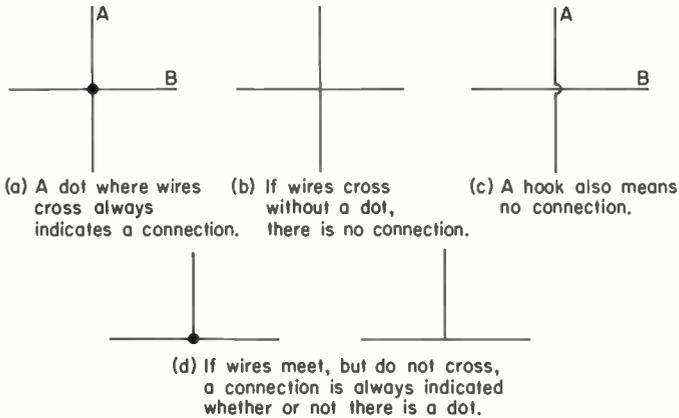

Fig. 2 How connections and crossings without connection are shown on schematic diagrams
Figure 2 shows you how to tell whether or not wires that cross on a diagram make an electrical connection at the crossing point. There are two rules to remember: (1) If wires meet but do not cross, as in Fig. 2(d), an electrical connection is always indicated. (There may or may not be a dot at the meeting point.) (2) When wires cross each other, as in Fig. 2(a), (b), and (c), there is no electrical connection unless there is a dot at the crossing point, as in (a). If there is no connection, a hook, as in (c) makes that fact clear. However, in the interest of speed, the hook is omitted more often than not, and the crossing point without a connection is drawn as in (b).